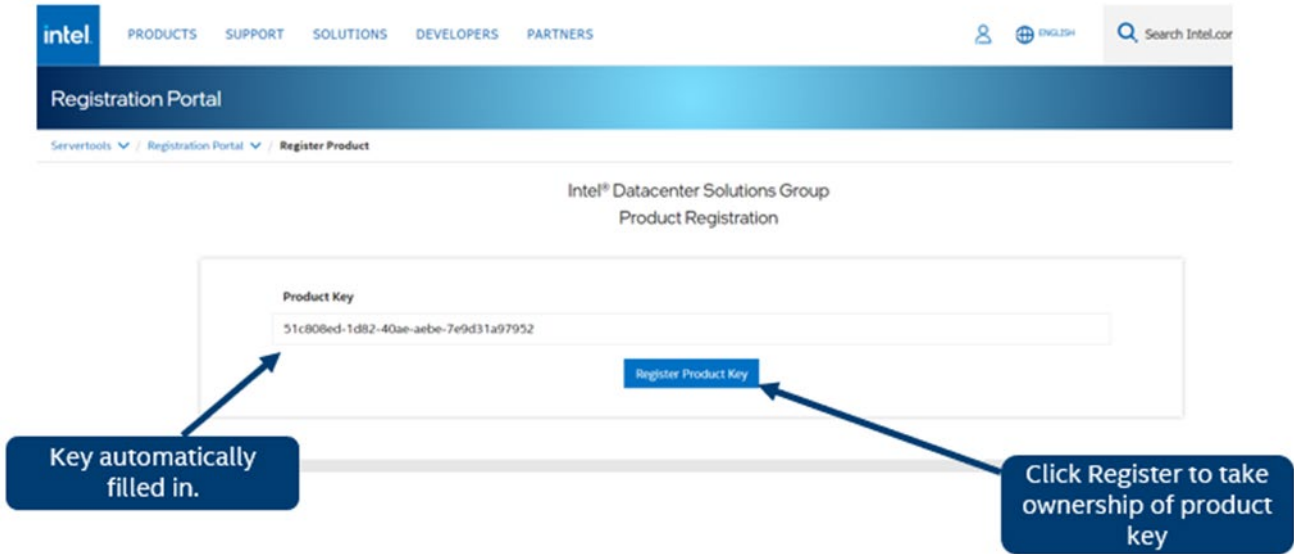

Figure 81. Register Key
5. On the Registration Screen, Click the “Register Product Key” button to register the pre-entered license key number. (see Figure 81)